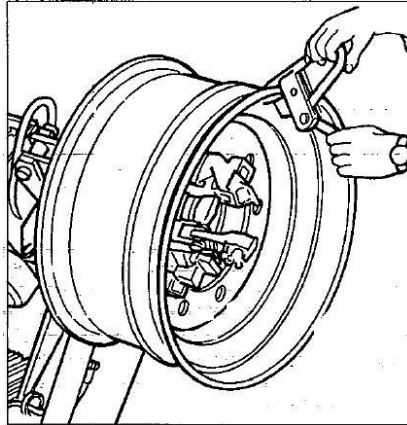

Fig.7.8
- 3) Attach the PC clip to the outside edge of the rim at the highest (See Fig. 7.8)
- 3) Attach the PC clip to the outside edge of the rim at the highest point (See Fig.7.8).